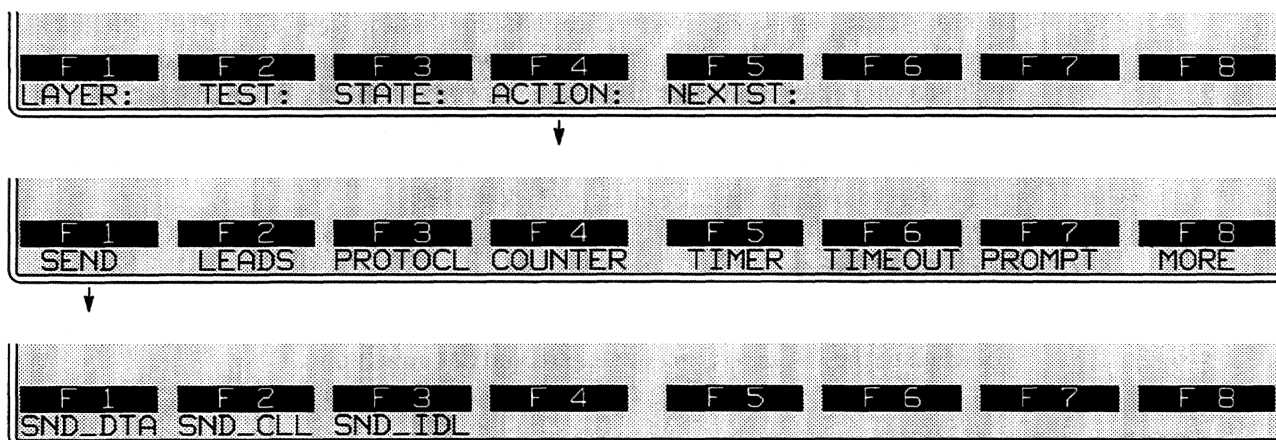

Figure 36-6 Two separate *SEND* actions are used to transmit either in data-transfer or call-setup format.
1. *Data-transfer send.* Figure 36-6 shows the three send options that branch under the SEND softkey. If you press SND_DTA, the keyword SEND is written to the spreadsheet screen and this prompt appears below the screen: "Enter Transmit String." This is a normal Layer 1 send action and it is appropriate whenever you are in Data Transfer state according to the X.21 protocol.
2. *Call-setup send.* The SEND softkey includes a CALL_SETUP_SEND function that sends text messages always in a code and format that is consistent with X.21 call-setup protocol. Press the SND_CLL softkey (Figure 36-6) or type CALL_SETUP_SEND followed by space to begin the entry. Enter the string inside quotation marks.